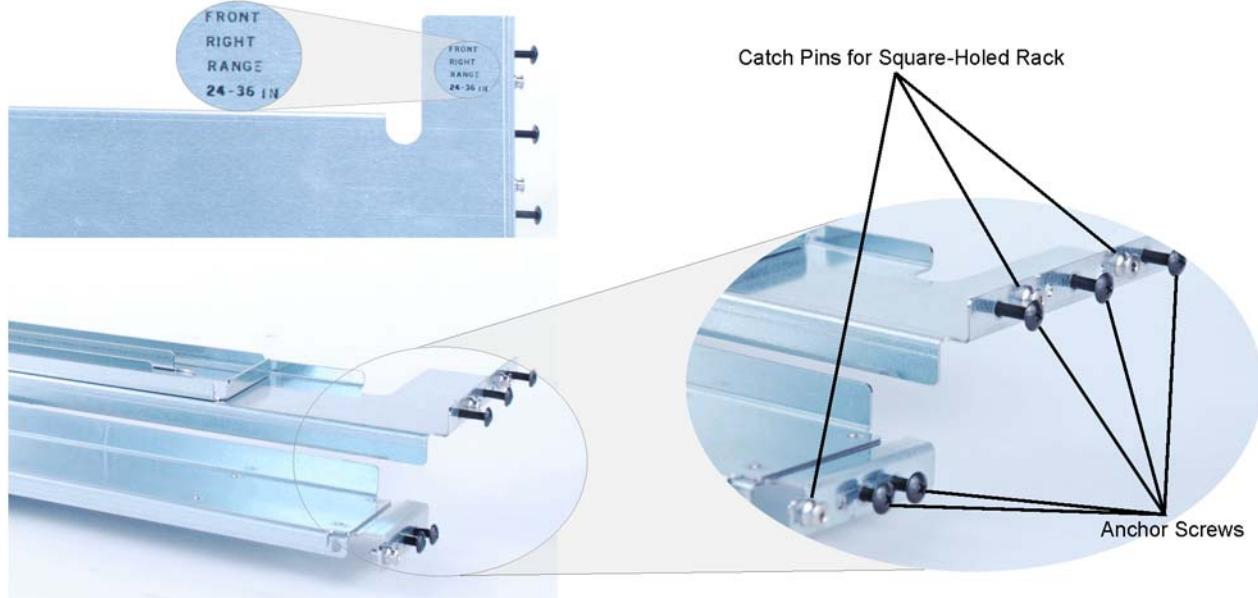

Figure 6. Adjustable Rail Kit
1. Remove the rail kit with anchoring screws from its packaging (Figure 6 on page 12).